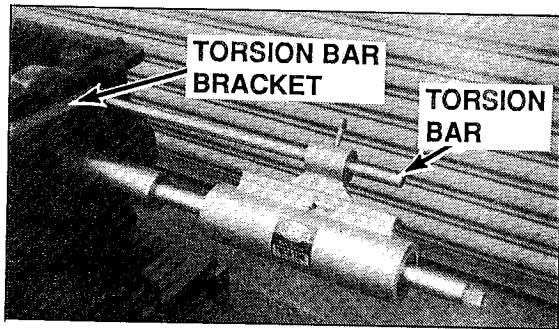

FIG. 6 FEED UNIT INSTALLED ON THE TORSION BAR
5. Bolt torsion bracket assembly loosely to cylinder block opposite end from which the boring bar will be driven. Install feed unit onto torsion bar and into boring bar. **NOTE:** Flat on feed unit drive bar aligns with set screw. Also hand tighten bolt holding torsion bracket to block. (See Fig. 6)